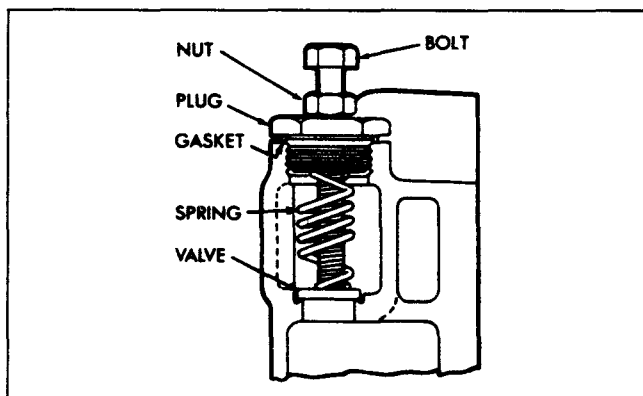

Fig. 2 – Bypass Valve with Modified Valve Plug Installed
*If the valve is secured by a plug, drill and tap a 1/4" – 20 hole in a filter bypass valve plug. Install a bolt long enough to contact the valve and keep it from opening and a nut to lock the bolt in position (Fig. 2). When the dynamometer test is completed, replace the modified plug with a standard plug and change the filter(s).*